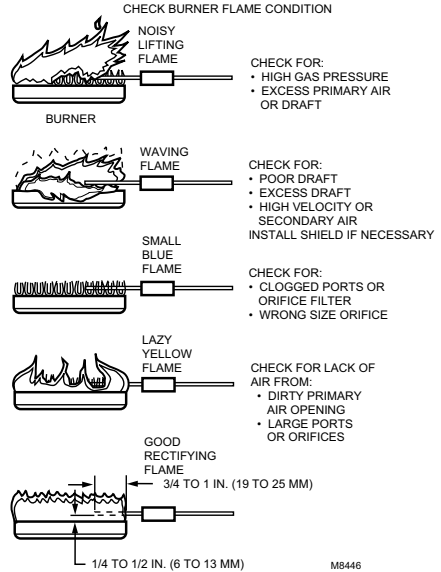

Fig. 6. Check burner flame condition.
- Check the burner flame condition. The igniter-sensor or sensor must be constantly immersed in flame. Check the burner flame condition as shown in Fig. 6. Do not relocate the hot surface igniter or flame rod.
- a. Make sure the burner flame is capable of providing a good rectification signal. See Fig. 6.
- b. Make sure about 3/4 to 1 in. of the flame sensor or igniter-sensor is continuously immersed in the flame for the best flame signal. See Fig. 6.